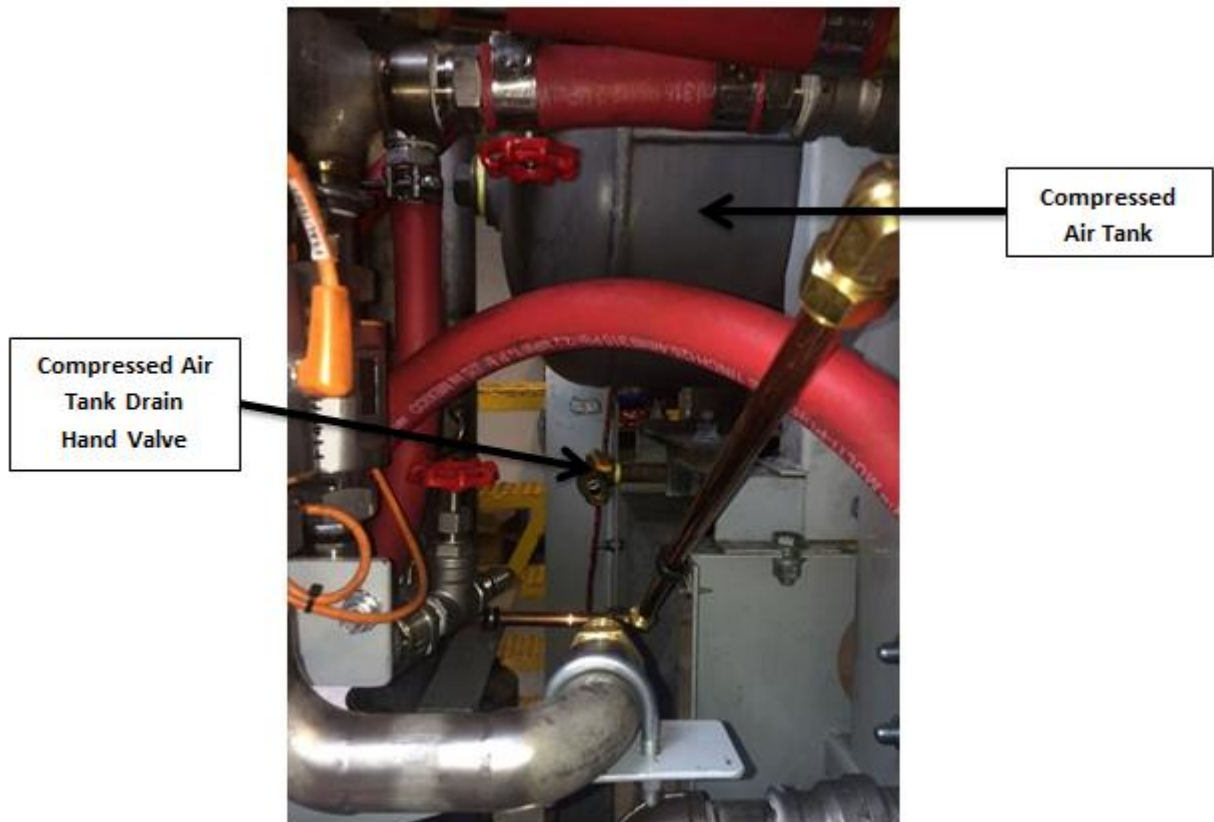

Figure 7: Compressed Air Tank
1. On the water skid slowly open the “**Compressed Air Tank Drain Hand Valve**” located below the tank as indicated in **Figure 7**.